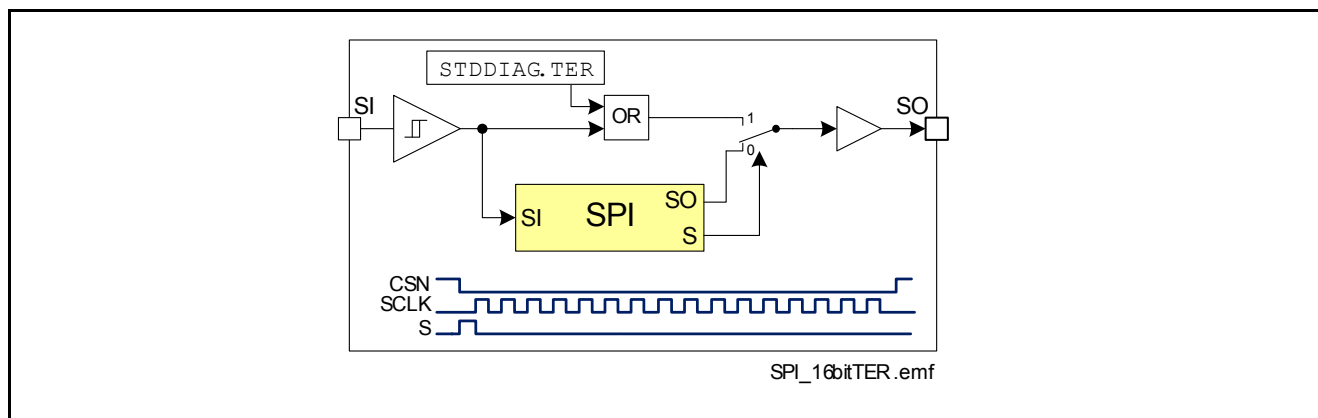

Figure 39 Combinatorial Logic for TER bit
- TER Flag will set the Bit number 10 in the STD diagnosis Frame. This Bit is set to HIGH after an undervoltage condition, reset via SPI command, on Limp Home state entering or after an incorrect SPI transmission. TER Flag can be read also directly on the SO line between the falling edge of the CSN and the first rising edge of the SCLK according to the Figure 39.